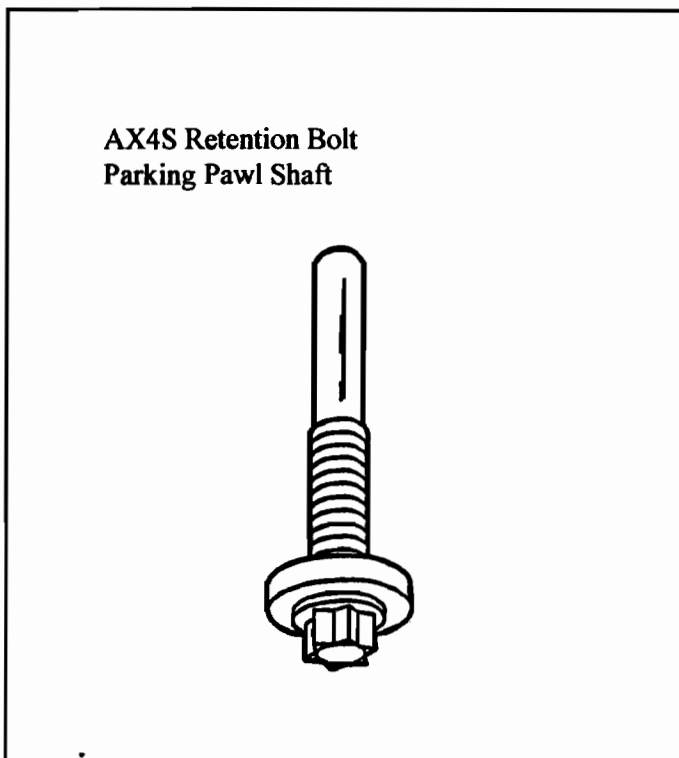

Figure 4
- Figure 4-Parking Pawl Shaft Retention Bolt(new item AX4S only)